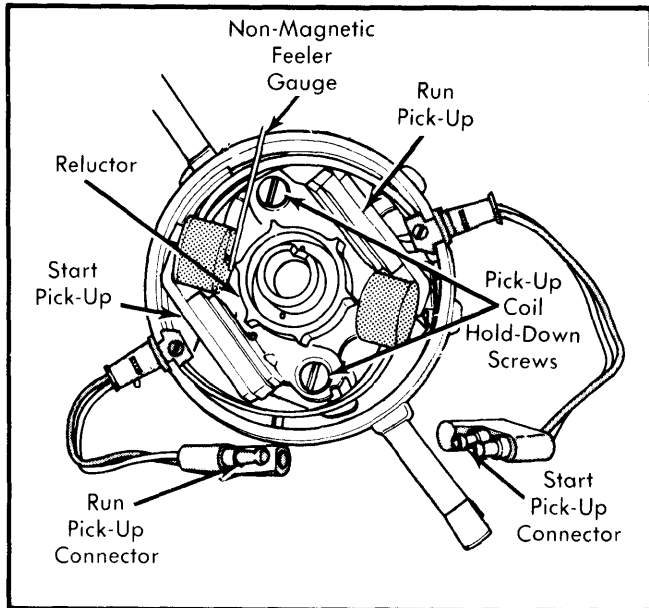

Fig. 10 Checking Distributor Pick-Up Air Gap
13) Remove distributor cap and check each reluctor-to-pick-up coil air gap. When setting start pick-up coil gap, use a .006" non-magnetic feeler gauge. Check gap using an .008" gauge. When setting run pick-up gap, set with .012" gauge and check with .014" gauge. Larger gauges should not fit in gap. See Fig. 10.